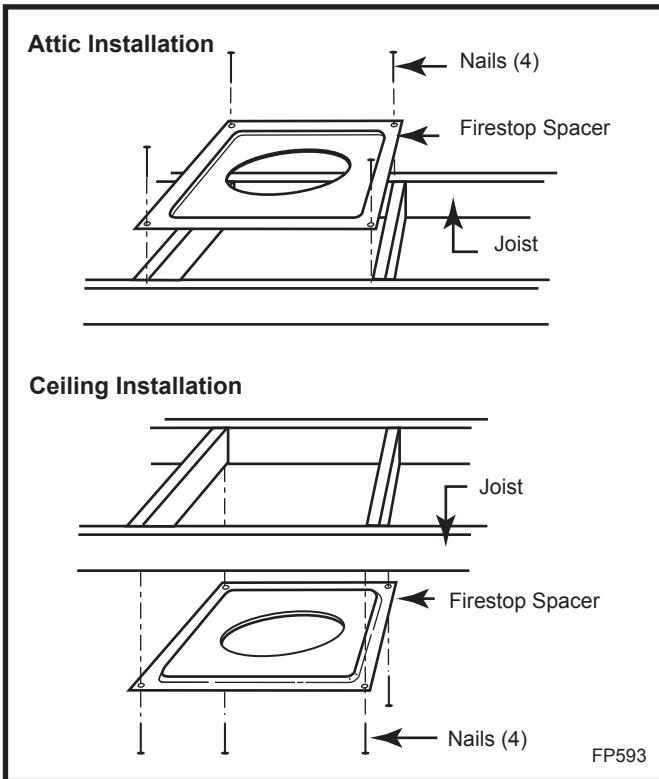

Fig. 36 Installing firestop spacer.
- Place firestop(s) SKFS2A or Attic Insulation Shield AIS-SK into position and secure. (Figs. 36, 37)
- Install roof support (Fig. 36) and roof flashing making sure upper flange of flashing is below the shingles.